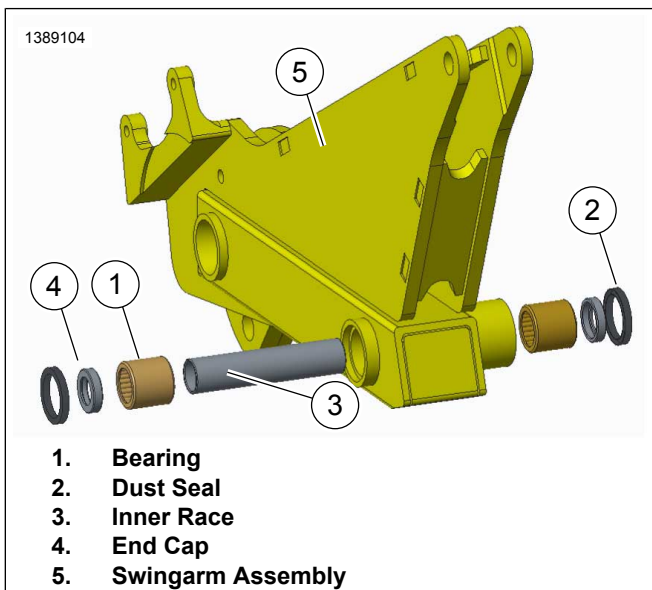

Figure 2-25. Assembly Of Swingarm
1. See Figure 2-25. Insert bearing (1) into either side of swingarm assembly.
2. Insert dust seal (2) into either side of swingarm assembly.
3. Apply a thin layer of ANTI-SIEZE LUBRICANT to the rolling elements on the bearings (1) and outside diameter of the inner race (3) and insert into swingarm assembly.
4. Insert end caps (4) into either side of swingarm assembly.